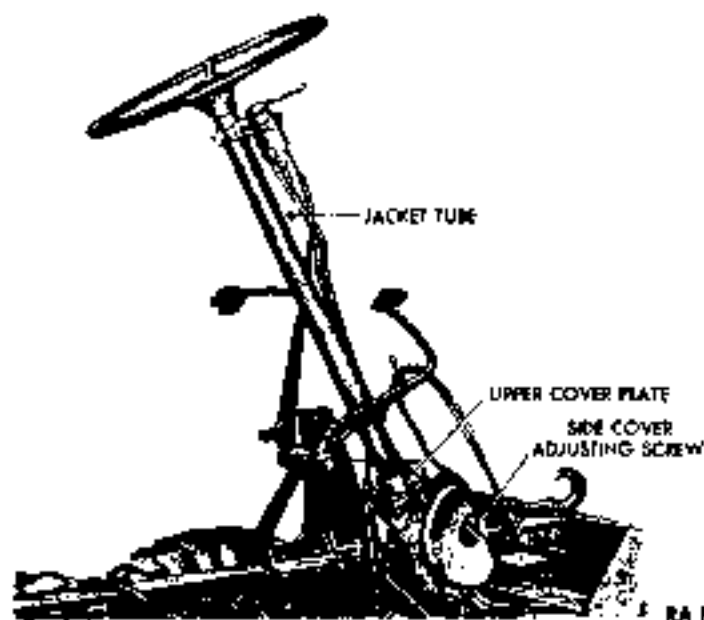

Figure 87 — Steering Gear Installed
a. **Description (figs. 87 and 89).** The steering gear is attached to the frame side rail at front left-hand side of vehicle, extending from the steering arm attached to left front wheel assembly through the steering gear housing to the steering wheel in the cab. The gear is the roller-mounted twin-lever type. The turning action of the steering wheel is relayed to the steering arm through a cam engaged to two studs mounted in tapered roller bearings on the lever shaft.
a. **Maintenance (figs. 87 and 89).** Check the drag link regularly for excess slack or end play. Check steering jacket tube assembly for end play by attempting to move it back and forth on its axis. Keep steering gear housing filled with proper lubricant.
(1) **ADJUST JACKET TUBE VERTICAL END PLAY (fig. 87).** Disconnect steering arm from drag link (par. 143). Loosen dash bracket clamp to prevent drag from hindering adjustment. Loosen side cover adjusting screw lock nut and side cover adjusting screw at right-hand side of housing. Remove the four nuts and lock washers which secure upper cover plate to housing. Slide cover plate up, and remove one of
(2) **ADJUST LEVER SHAFT END PLAY** (fig. 87). Turn wheels straight ahead, placing studs in cam groove at midposition of travel. Tighten side cover adjusting screw until a very slight drag is felt through the midposition. Tighten adjusting screw lock nut, and recheck drag after lock nut is tight.